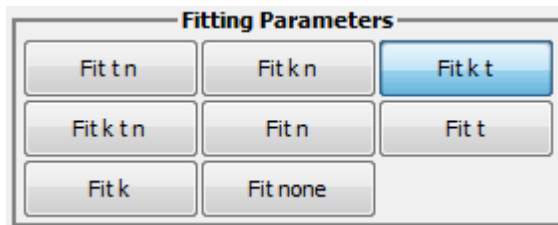
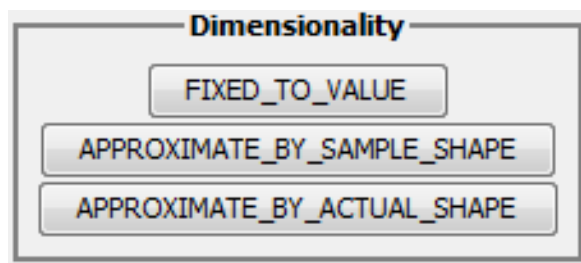
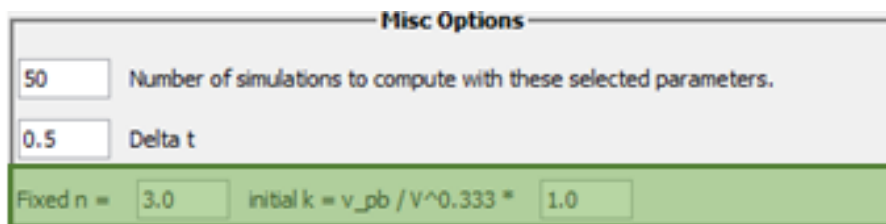

Figure 16. Toggle buttons to control which parameters are fit.
Figure 17. Toggle buttons to control how n is determined.
Figure 18. Specific values to use when fixing various parameters in the KJMA model as highlighted in green.
3.4. Fitting Parameters -- Figure 16 to Figure 18
As the parameters are hideously correlated, it may be desirable to fix some or all of them to a specific value and fit the others. This option is controlled by the set of toggle buttons as given in Figure 16.
When the dimensionality (n) parameter is fixed, there are a few options as to how its value is determined. This is controlled by the toggle buttons given in Figure 17. When the “FIXED_TO_VALUE” button is selected, the fitting algorithm will use the value given in the “Fixed n =” text box, shown in Figure 18.